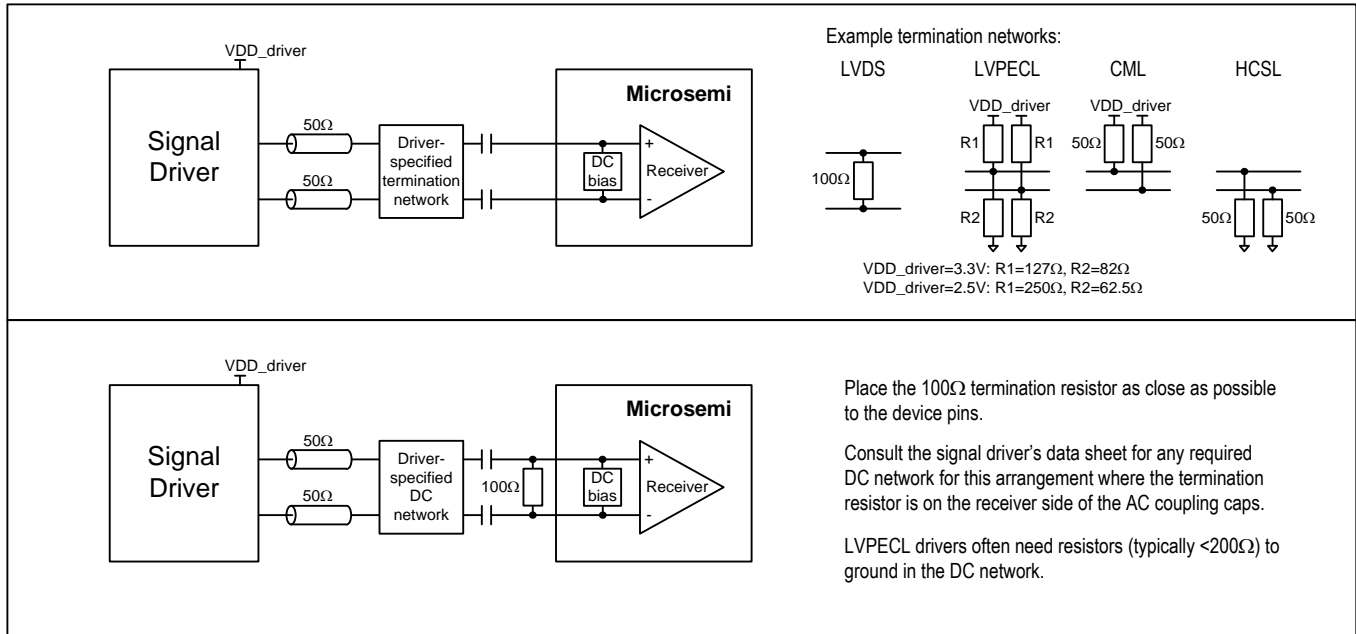

Figure 22 - Example External Components for Differential Input Signals
- Note 3: Differential signals.** The differential inputs can easily be interfaced to neighboring ICs driving LVDS, LVPECL, CML, HCSSL, HSTL or other differential signal formats using a few external passive components. In general, Microsemi recommends terminating the signal with the termination/load recommended in the neighboring component's data sheet and then AC-coupling the signal into the ICxP/ICxN pins. See Figure 22 for details. To connect a differential signal to IC3, AC-couple one side of the signal to IC3P and AC-couple the other side to VSS. For DC-coupling, treat the input as 1.8V CML.